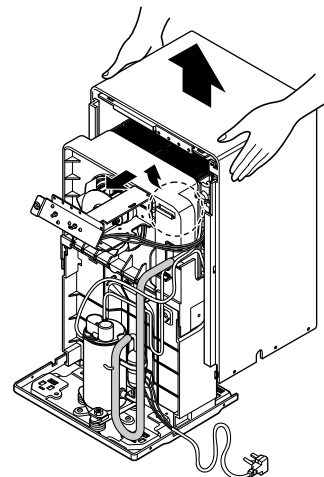

Figure 8
4. Lift the Cabinet from the base.(See Figure 8)
6. Unhook control box from two hooks on the shroud. (See Figure 8)